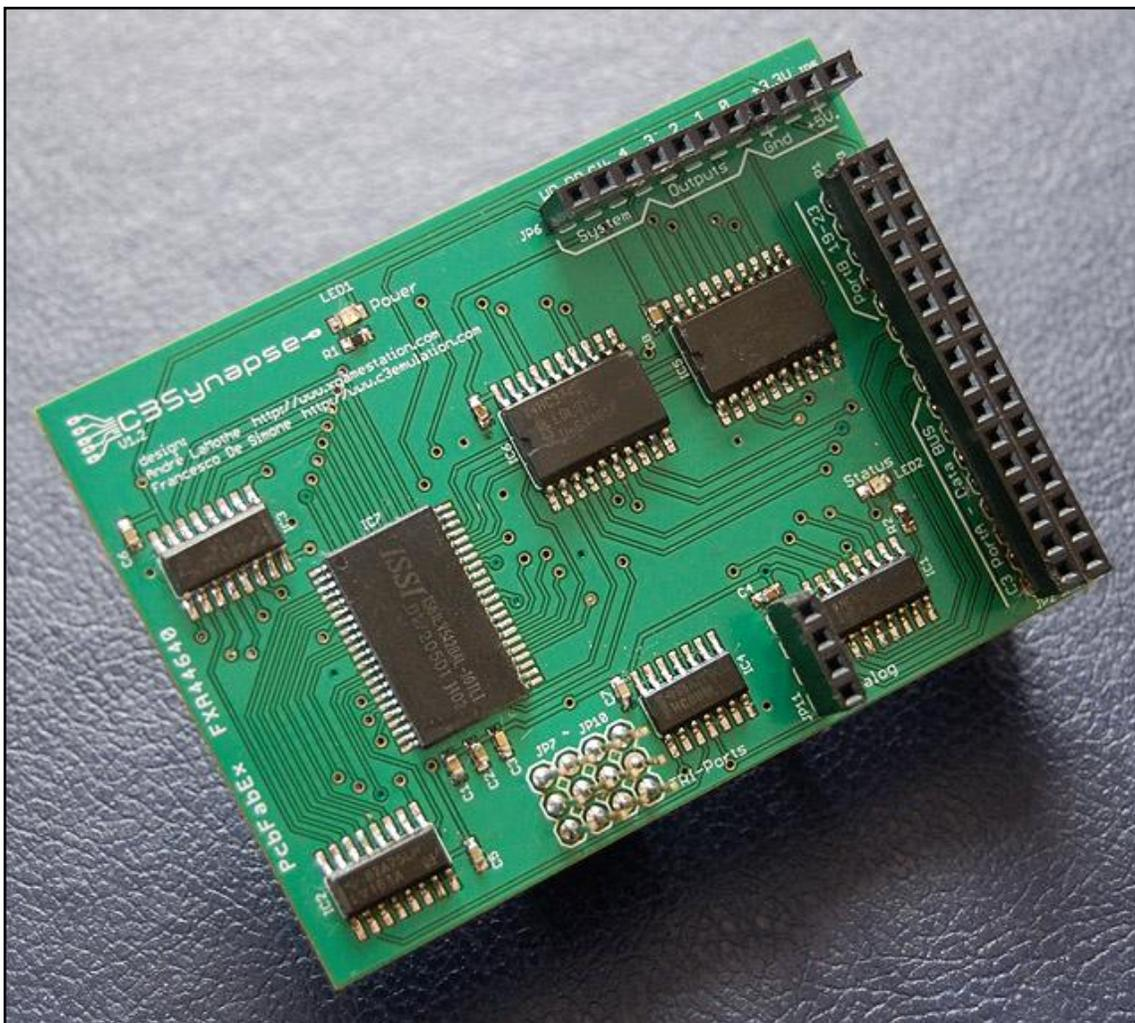

Figure 3: The C3Synapse Board.
- Figure 3: The C3Synapse Board 9
First off, take a look at **Figure 3** which is your C3Synapse board.